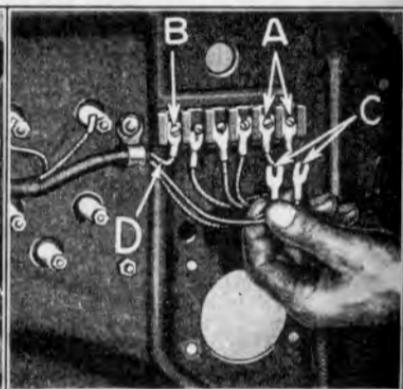

Fig. 94
**118 Connect headlamp and cutout to ammeter wires** at terminal block by inserting terminals of headlamp wires (See "C" Fig. 94 black with green tracer) under heads of terminal block wire screws "A", and cutout to ammeter wire "D" (yellow with black tracer) under head of screw "B".